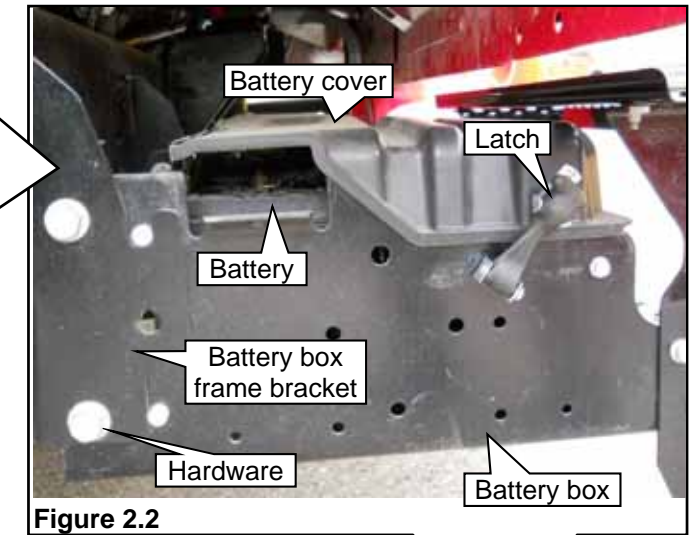

Figure 2.2
3. Remove the right hand steps, step brackets and hardware. Remove the battery cover, battery and battery box. **Figure 2.2.** **Note:** The battery cover, battery, battery box and all electrical harnesses, terminals and connectors must be relocated to accommodate the new right side propane fuel tank. The relocation **MUST** be within the OEM requirements for the location. Add no more than what is required for the additional cable to extend the battery and battery box.